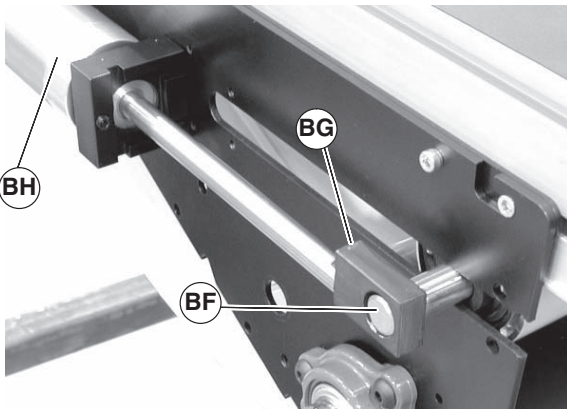

Figure 29
9. Push shaft (Figure 29, item BF) through block (BG) on opposite side of center drive, slide block toward air cylinder (BH).